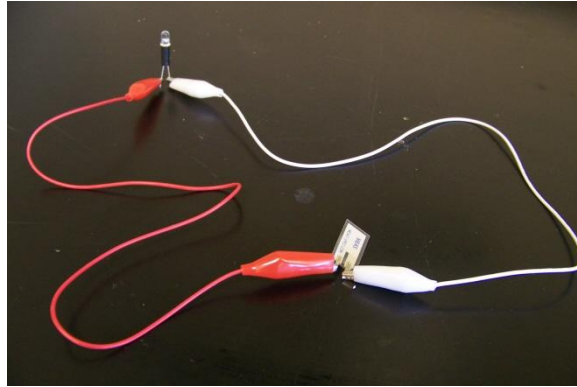

Figure 2. LED and piezoelectric polymer film connected by alligator clips
2. Connect 1 LED to each piezoelectric material so that the long wire of the LED is connected to the red wire coming from the piezoelectric material, and the short wire on the LED is connected to the black wire of the piezoelectric material. Use the supplied alligator clips to make these connections (Figure 2).